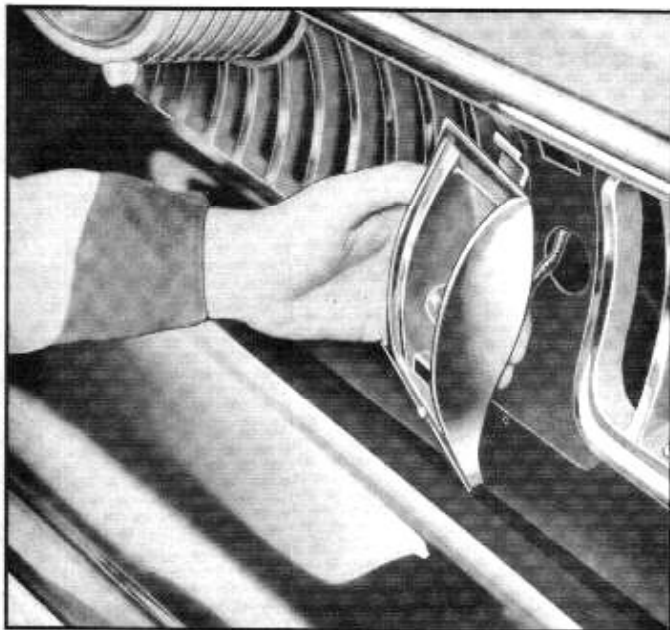

Fig. 11-22—Removing Parking Lamp Assembly
3. Remove lamp assembly by sliding assembly outward and upward from the bottom to disengage upper retaining clip from upper radiator grille moulding. See figure 11-22.